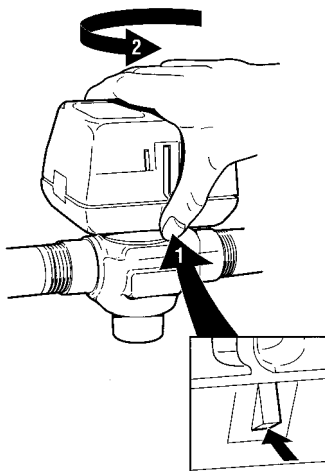

Fig. 8. Latch mechanism
3. The actuator head is automatically latched to valve (see figure 8). To remove, lift up on the latch mechanism located directly below the red manual open lever. Press the actuator head down towards the body with moderate hand force and turn counter-clockwise by 1/8 turn (45 degrees) simultaneously. Lift the actuator head off the valve body.